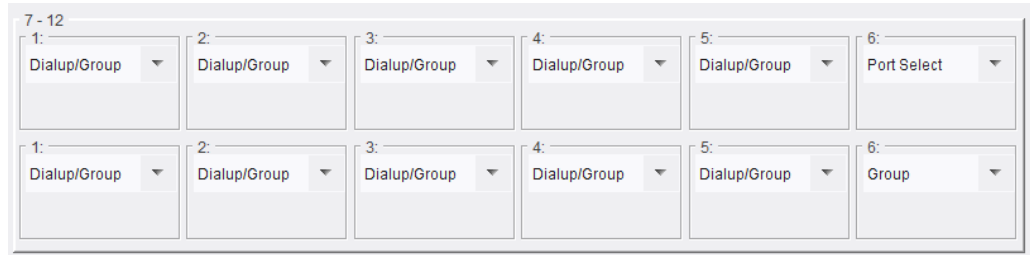

Fig. 6-13: Map Buttons 7 to 12
- 2 Select each button function type with the corresponding drop-down selection box and set button types to those shown in Figure 6-13.